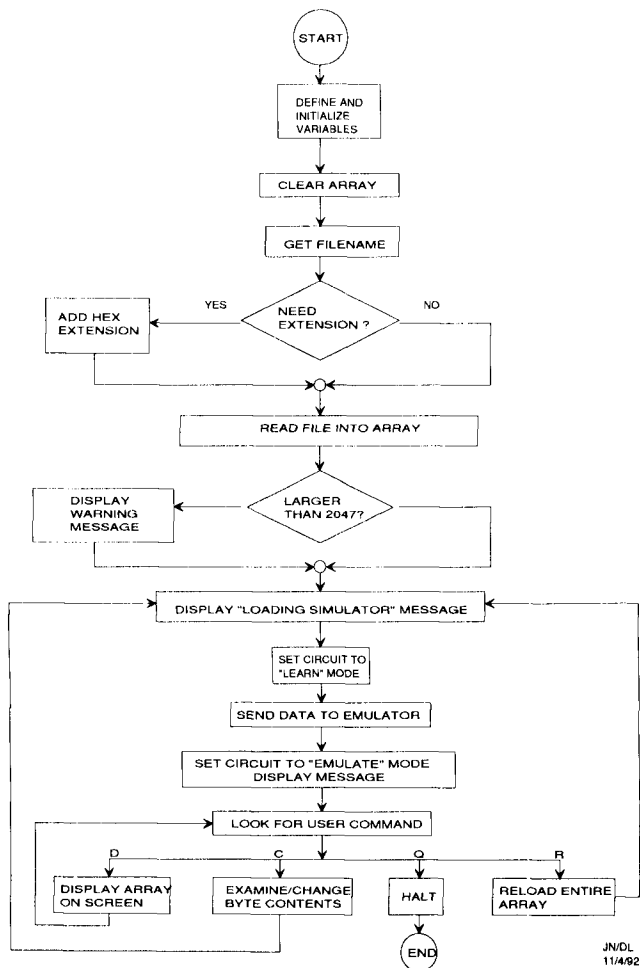

Fig 3—JLEM overview flowchart (see note 1)
3. *Learn Mode Section:* A 25-bit shift register formed by the cascaded 74LS299s to receive the address, data bit and control bit via the data cable from the printer port of the personal computer (PC).
The JLEM program running on a PC controls the emulator. This software takes the microcontroller instruction file coded in Intel HEX format, serializes the data and downloads it into the emulator RAM. A high-level flowchart of the program is shown in Fig 3. Bits from the PC are loaded serially into the shift register with the CONTROL line held high. When the register is fully loaded, the CONTROL line is asserted low. This prevents any additional bits from shifting through the register and enables the RAM write enable (WE) signal line. On the next strobe, data is written into the RAM at the specified address. The initial load consists of setting the Learn/Emulate Flag (the last bit of the shift register) to "0". This disables the EMULATE section and enables the LEARN section. Next, each address and data combination is shifted into the register and the data is written into the RAM. This process is repeated until all instructions have been stored into the RAM. After the last instruction is written, data is shifted into the register which sets the Learn/Emulate Flag to "1". The D flip-flop, U8, then switches the circuit into the EMULATE mode. In the EMULATE mode, the LEARN mode circuitry is tri-stated and the address drivers that receive the instruction address from the emulation socket are enabled. At this point, the microcontroller of the target system can be manually reset and the program will begin to execute.